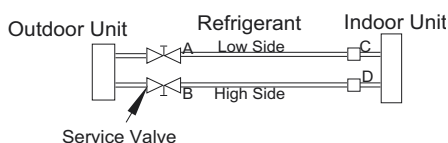

Fig. 19 – Service Valve
1. Completely tighten flare nuts A, B, C, D, (for all fan coils). Connect gage charge hose to one circuit or all circuits (if using a multiple connection manifold) at the low side service valve charge port(s). (See Fig. 19.)